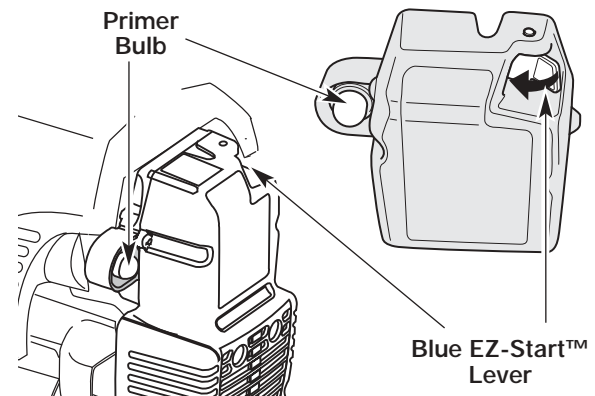

Fig. 11
2. Fully press and release the primer bulb 10 times, slowly. Some amount of **fuel should be visible in the primer bulb** and fuel lines (Fig. 11). If you can't see fuel in the bulb, press and release the bulb as many times as it takes before you can see fuel in it.
4. **Push the blue EZ-Start™ Lever towards the primer bulb** until it clicks and locks into place (Fig. 11).